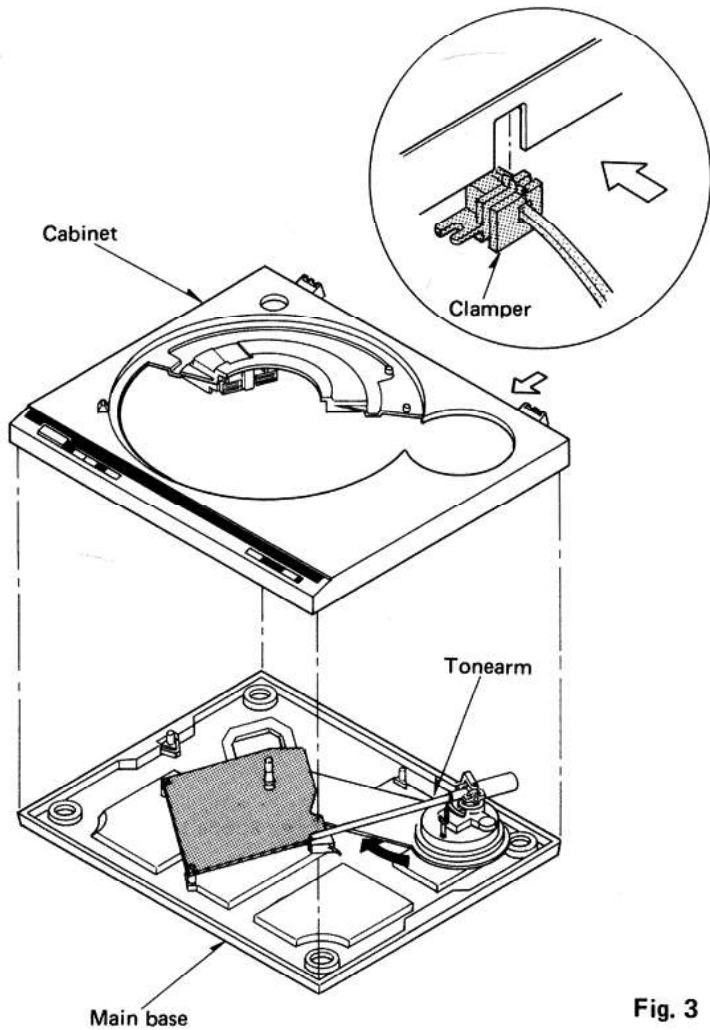

Fig. 3
9. Remove the tonearm from the rest, shift the tonearm inward, and lift the cabinet. Then, the main base and cabinet can be disassembled. (See Fig. 3)